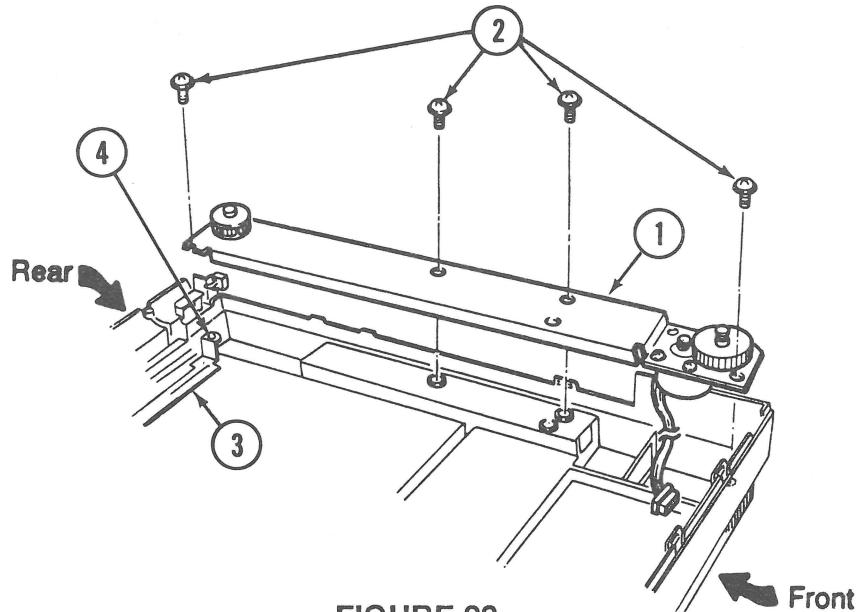

FIGURE 20
5. Remove the pulley bracket on the right side (Figure 20, #1) by removing the four screws with black washers (Figure 20, #2).
6. Locate the metal ground strap (Figure 20, #3) that comes from the left side of the case and is attached to the pulley bracket. Remove the screw (Figure 20, #4). The bracket will not come out.